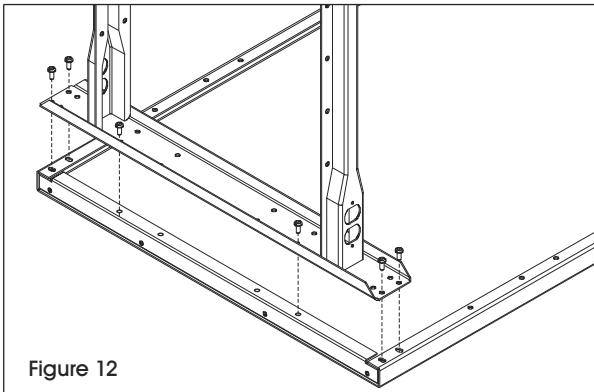

Figure 12
1. Align leg holes to end of tabletop. Secure leg (2) with six 1/4-20 x 5/8" bolts. Threaded inserts are provided. (See Figure 12)